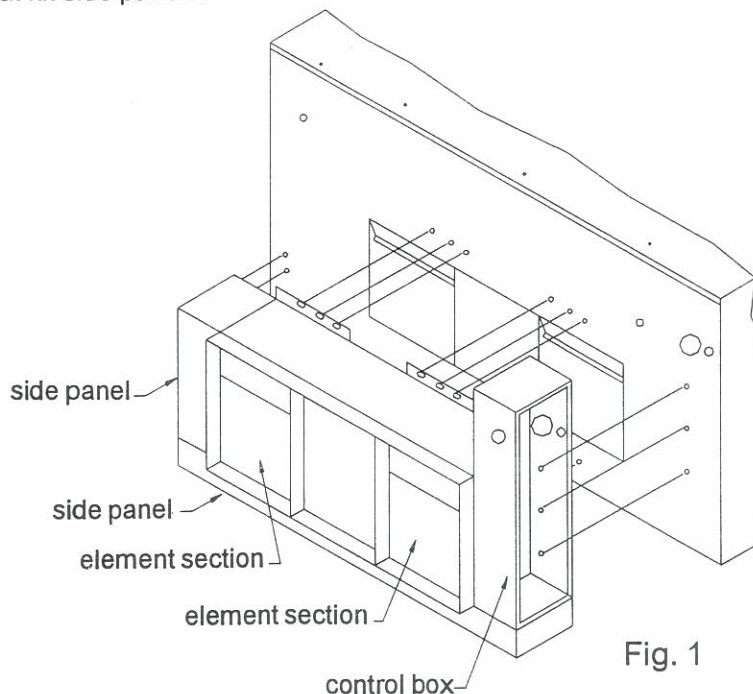

Fig. 1
3. Remove the (2) heater kit electrical side panels and open the electrical box access door to obtain access to the heater mounting holes.
5. Using supplied screws secure the heater kit to the air handler unit (see fig. 1).